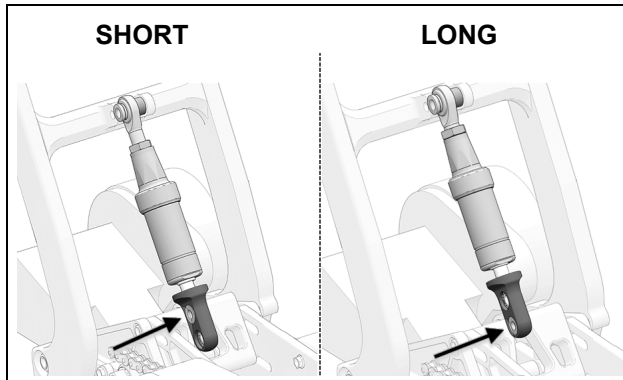

Figure 28
- The Soft Strut can be mounted in two positions, allowing two sets of lengths as needed to fit different bike models. See Figure 28.